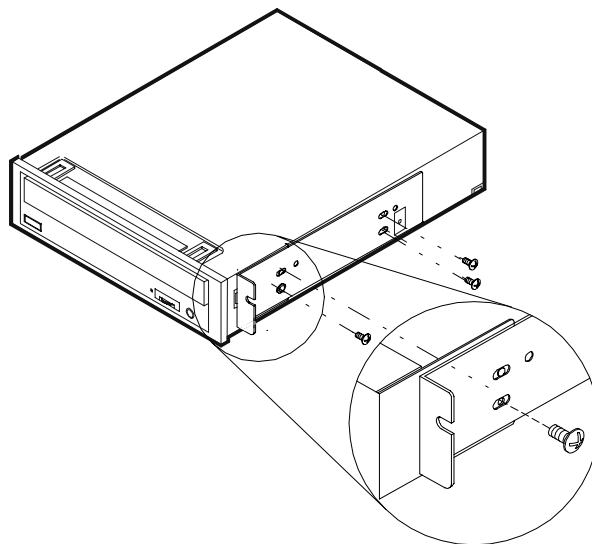

Figure 4-29. Attaching the Right Side Rail
9. Position the right device rail along the right side of the device so that the four holes in the device rail match the four holes located in the side of the device. Attach the right device rail to the device with four screws as shown in Figure 4-29.
See Figure 4-29.